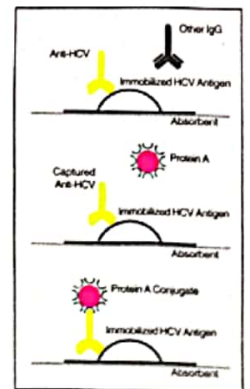

Fig. 4 Principle of the Assay
1. HCV antigens are immobilized on a porous immunofiltration membrane. Sample and the reagents pass through the membrane and are absorbed into the underlying absorbent pad (Fig. 4).
2. As the patient's sample passes through the membrane, HCV antibodies if present in serum/plasma, bind to the immobilized antigens. In the subsequent washing step, unbound serum/plasma proteins are removed (Fig. 4).